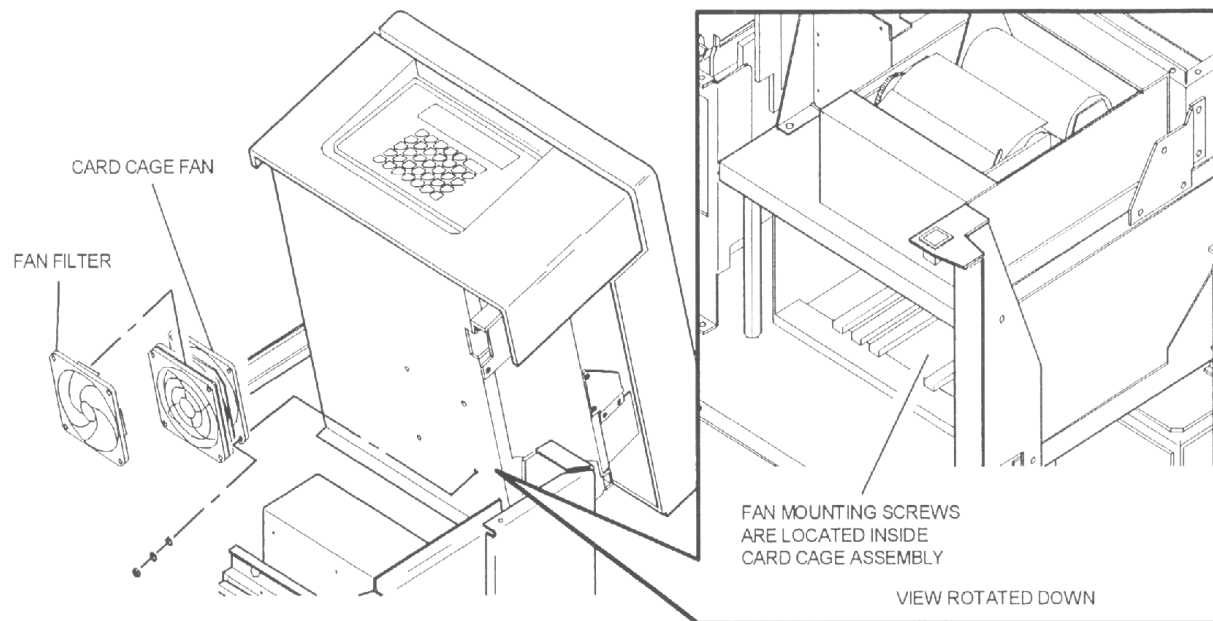

Figure 4-15. Card Cage Fan
3. Disconnect cable from fan (**Figure 4-15**).